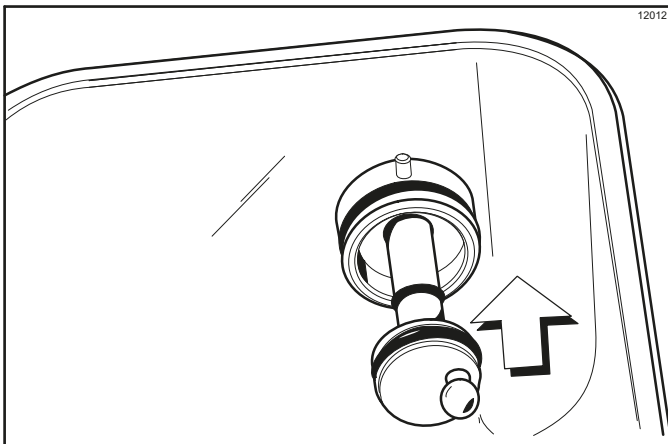

Figure 6-32
14. Install the hex end of the driveshaft into the drive hub at the rear wall of the mix hopper. (See Figure 6-32.)